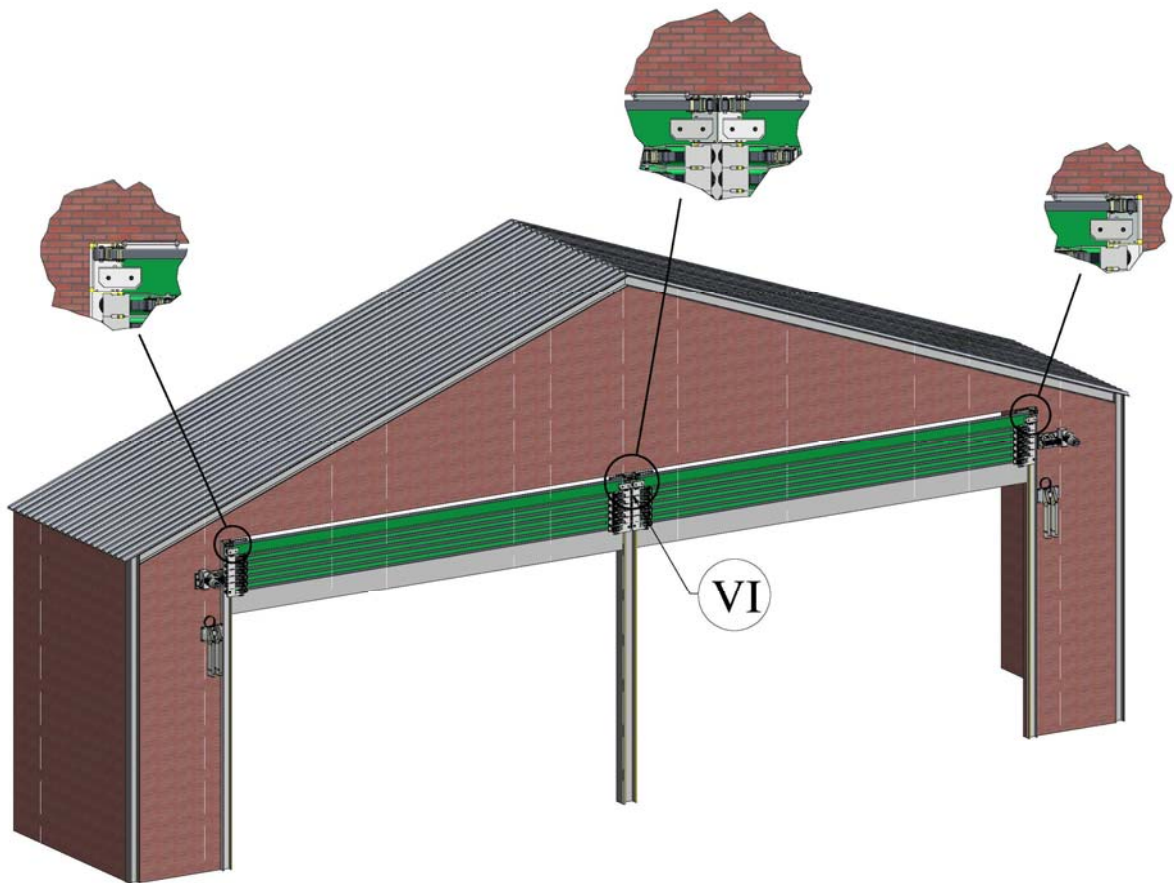

Figure 10a Drives on Left and Right
11. Figures 10a through to 10c show three electric drive fitting locations for adjacent doors.
- ❖ If the two drives can be positioned on extreme left and right then the minimum width of the central tracking is 250mm (Figure 10a).